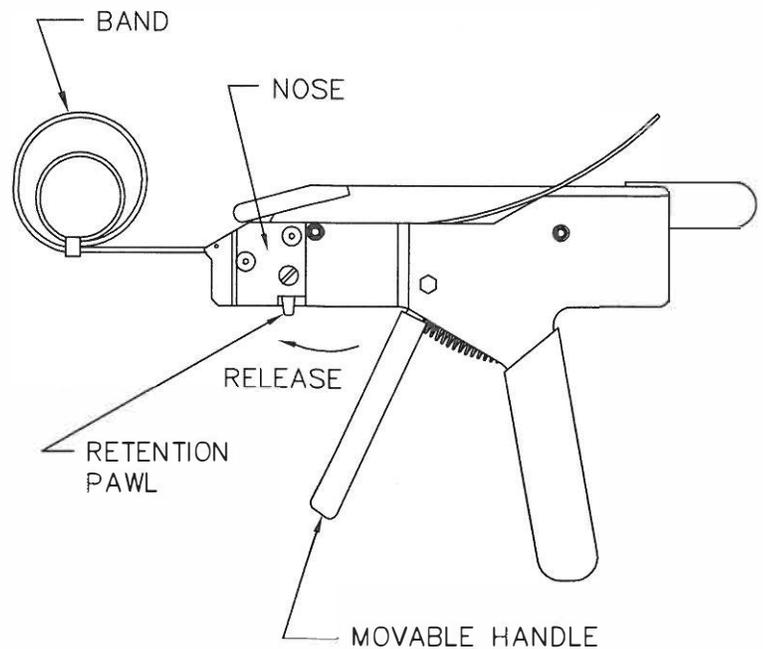

FIGURE 2
1.4 At any point in the operation prior to the locking of the movable handle, the band may be loosened or removed by disengaging the retention pawl as shown in Figure 2. When actuating the retention pawl, apply a force on the band away from the tool to remove or loosen the band.